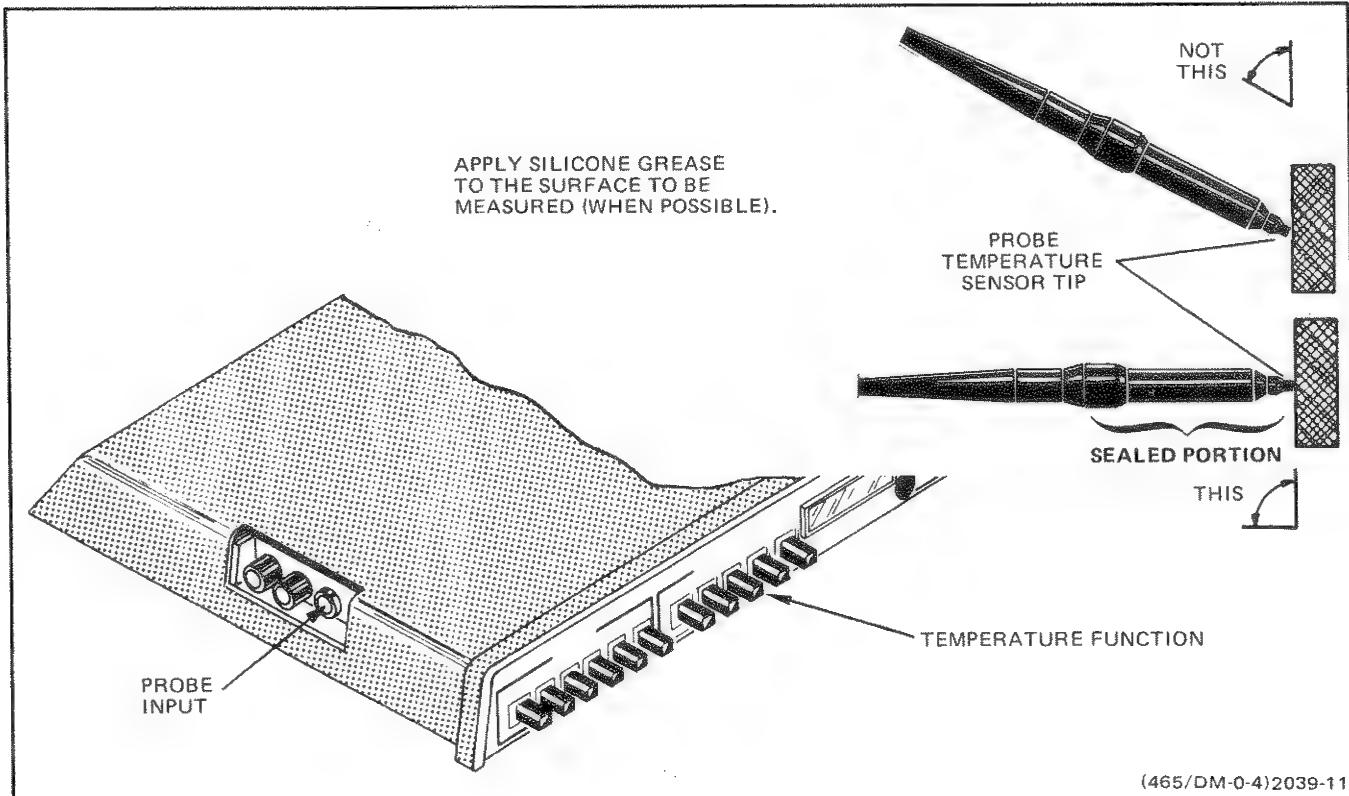

Fig. 10. Temperature.
1. Push in the TEMP ( $^{\circ}\text{C}$ ) FUNCTION button. See Fig. 10.
*To prevent possible probe damage, be sure only the sealed portion of the probe is immersed (see Fig. 10).*